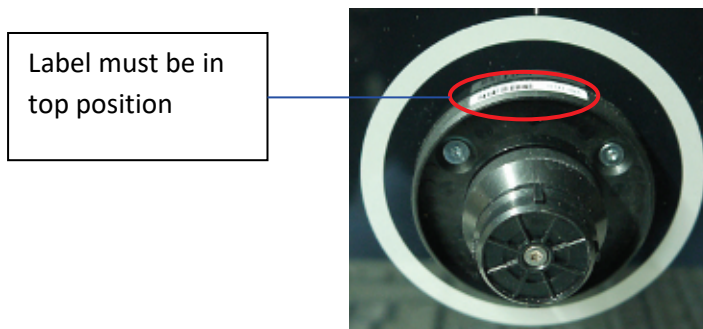

Fig. 50: Position of the label on the cap holder of the rotary/push button
- ☐ Attach the holder of the rotary/push button so that the white label on the side of the cap holder is in top position (see Fig. 50).